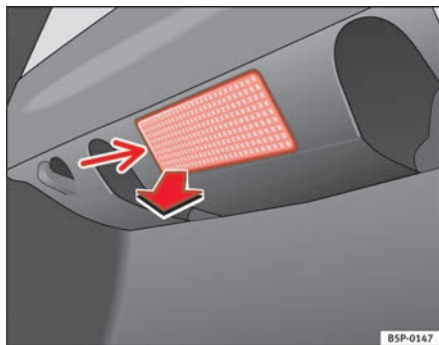

Fig. 174 Luggage compartment light
- Extract the tulip shaped fitting by pressing on the inside edge of this -arrow- using the flat side of a screwdriver ⇒ fig. 174.